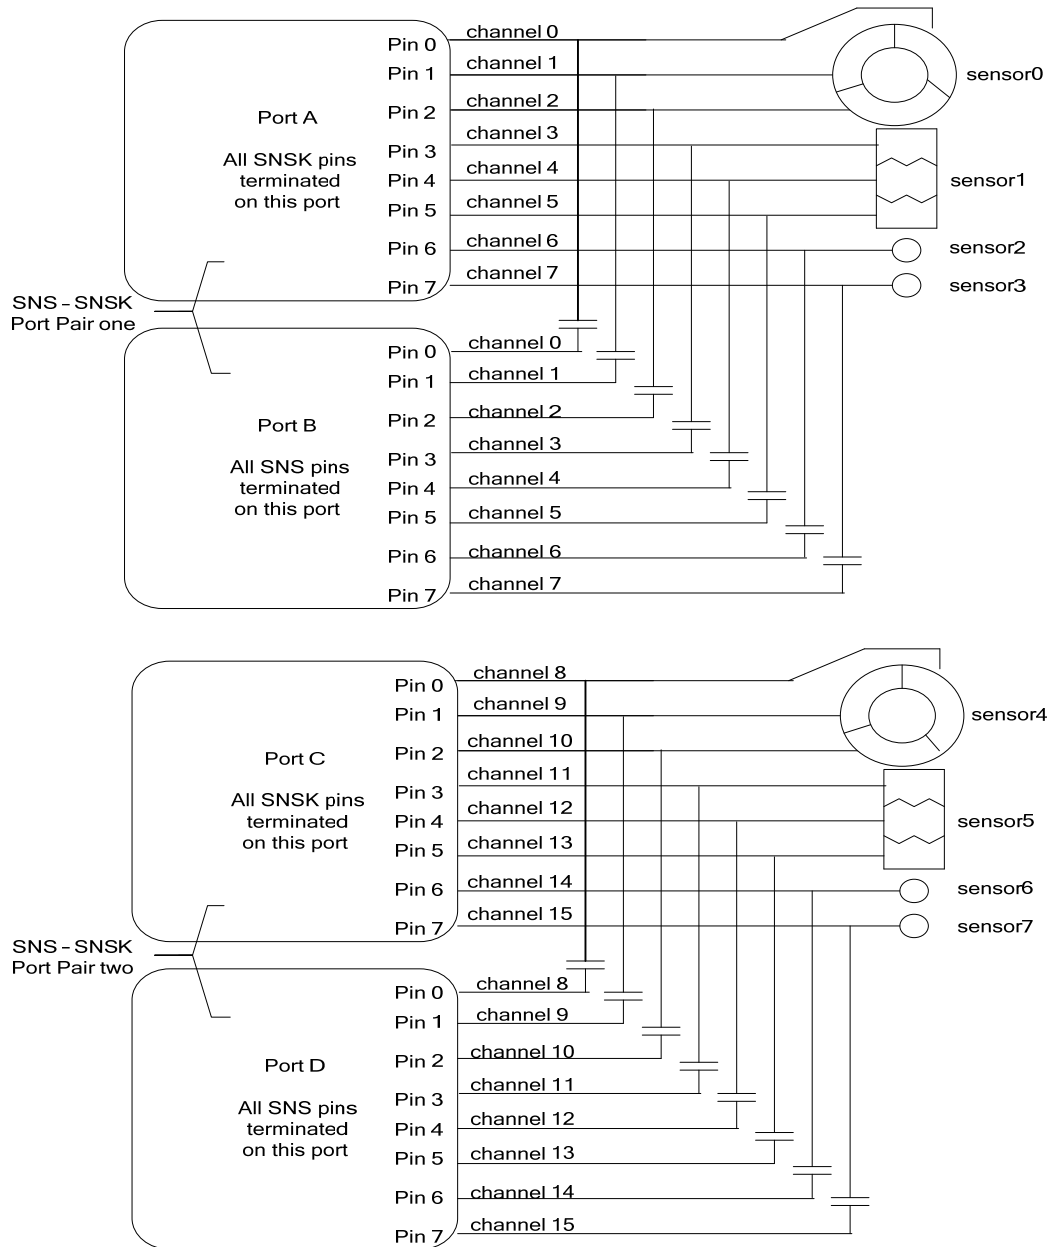

Figure 5-7 : channel numbering for QTouch acquisition method when the SNS and SNSK pins are connected to different ports.
Figure 5-7 illustrates a sample QTouch capacitive sensing solution which uses four ports (two port pairs) on a device for routing the SNS and SNSK lines required.
- When a library on corresponding device is configured to use more than two ports for SNS and SNSK pins, the channel numbers in the second set of SNS/SNSK port pair continue from the preceding pair as illustrated in Figure 5-7(pin 0 of next port pair is channel 8 and pin 7 of the next port pair is channel 15).